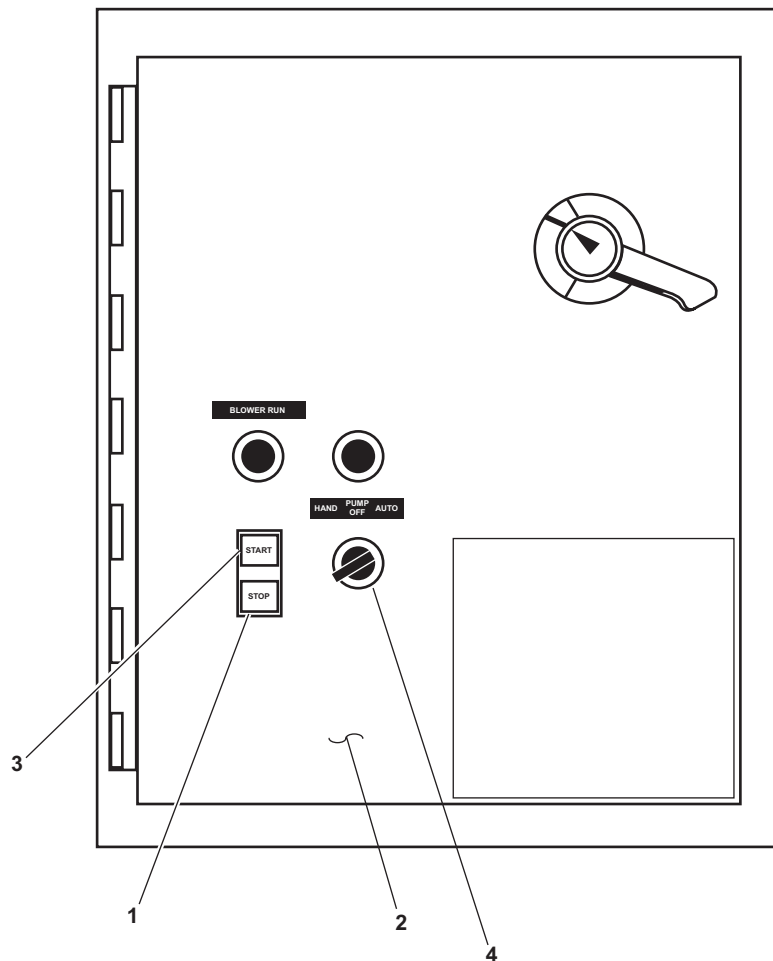

Figure 3. MSD Motor Controller
2. Press the STOP button (figure 3, item 1) on the MSD motor controller (figure 3, item 2).
- 9. Press the START button (figure 3, item 3) on the MSD motor controller (figure 3, item 2).
12. Press the STOP button (figure 3, item 1) on the MSD motor controller (figure 3, item 2).